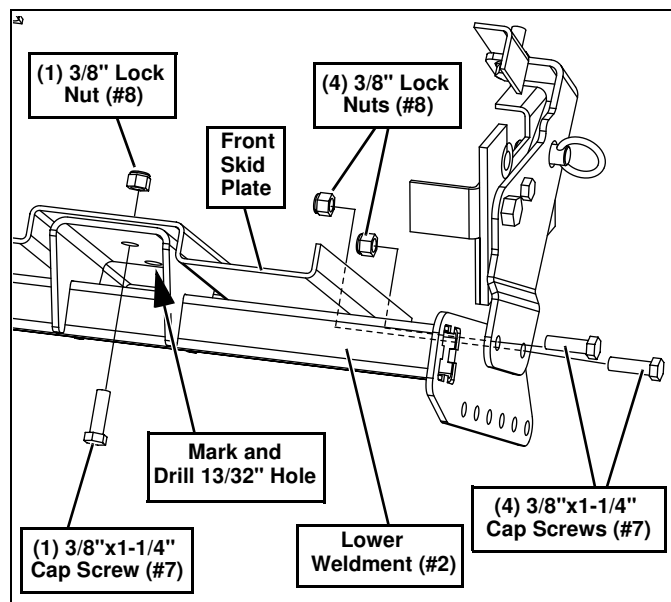

Figure 9
18. Align the top front hole of the Lower Weldment (#2) with the top hole in the front skid plate. Insert (1) 3/8"-16x1-1/4" Cap Screw (#7) and secure with (1) 3/8"-16 Lock Nut (#8). (See Figure 9.)
19. Insert (4) 3/8"-16x1-1/4" Cap Screws (#7) thru the lower side holes of the Upper Driver and Passenger Side Weldments (#3 & #4) and into the upper side holes of the Lower Weldment (#2). Secure with (4) 3/8"-16 Lock Nuts (#8). (See Figure 9.)
20. Mark the location of the lower front hole of the Lower Weldment (#2) on the Skid Plate. (See Figure 9.) Remove hardware installed in steps 18 & 19 and Lower Weldment (#2).